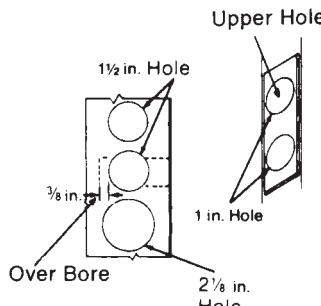

Figure 13.58 Boring holes.
5. Bore two 1-inch holes in the edge of the door. The upper hole should be extended $\frac{3}{8}$ inch beyond the far side of the middle hole on the door panel (Fig. 13.58). Mortise the edge of the door for the latch front.